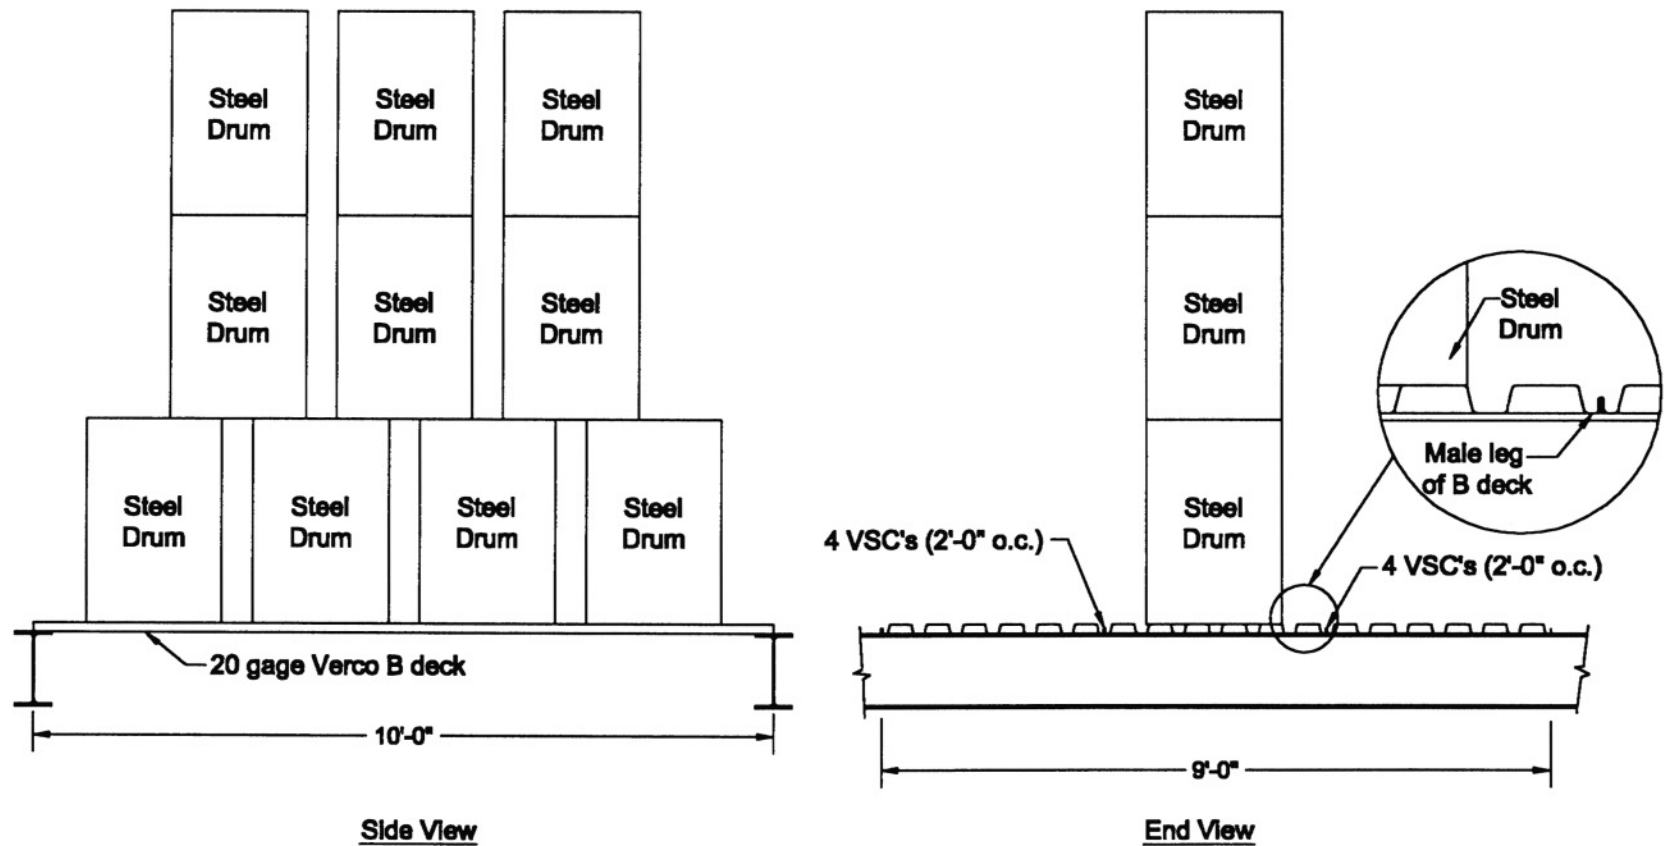

Figure No. 1
The 20-gauge steel, PLB™ decking was secured to a structural steel frame with four (4) arc spot welds at each end. (i.e. a 36/4 weld pattern) Three sections of decking, which were 3 ft. wide by 10'-4" long, were welded to the test frame and the side-laps were secured with your VERCO PUNCHLOK™ TOOL. The overall assembly was therefore nine feet wide and had a 10-foot free span. The side-lap punches were 2 ft. on center, 4 per span. The applied load was distributed in a manner to achieve a uniform load application over the 30 sq. ft. center deck section. (See Fig. No. 1)